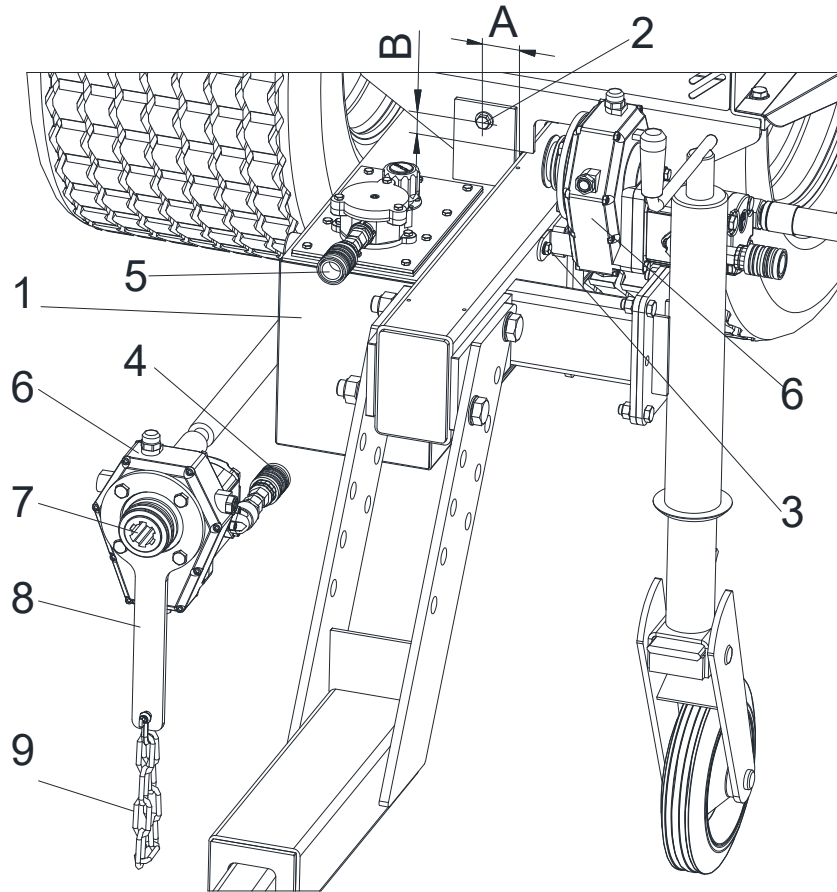

Fig. 12 Attachment of the external oil supply unit
1. To attach the hydraulic tank (Fig. 12/1), the belt support is drilled out with a diameter of 13.5 mm with measurement A (Fig. 12/A) 45 mm (1,77") and measurement B (Fig. 12/B) 35 mm (1,38") and screwed tight with a hexagon head screw M12x130 and lock nut M12 (Fig. 12/2).
2. For start-up, the pressure line of the machine is connected to the free Connection (Fig. 12/4) of the slip-on pump (Fig. 12/6) The return line of the machine (with non-return valve) is connected to the free connection (Fig. 12/5) on the hydraulic tank (Fig. 12/1)
3. The PTO gearbox (Fig. 12/7) with slip-on pump (Fig. 12/6) is attached to the connecting shaft of the tractor and secured against rotation with the torque arm (Fig. 12/8) and safety chain (Fig. 12/9).
4. The holder (Fig. 12/3) can be drilled out and fastened to the drawbar tube with M8 so that the PTO gearbox with slip-on pump (Fig. 12/6+7) can be fixed when the machine is parked.